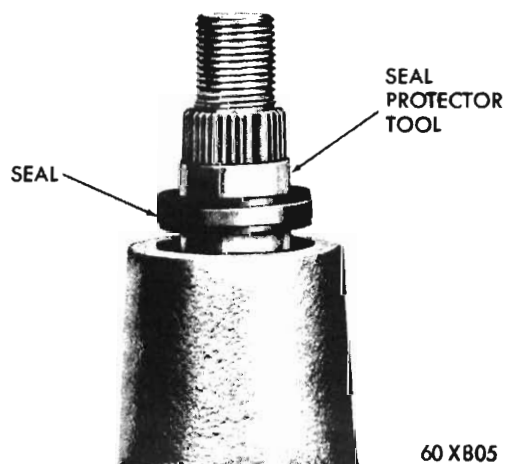

Fig. 13 - Sector shaft oil seal protector (Tool E19C20A)
(1) Place the cross-shaft seal on the seal protector sleeve from Tool E19C20A, by carefully sliding the seal over the tapered end of the sleeve so that the lip of the seal faces the tapered end of the sleeve.
(2) Place the seal and protector sleeve assembly on to the splines on the cross-shaft with the lip of the seal facing the gear housing (*See Fig. 13*).
(3) Slide the seal down off the protector sleeve onto the cross-shaft and remove the sleeve.